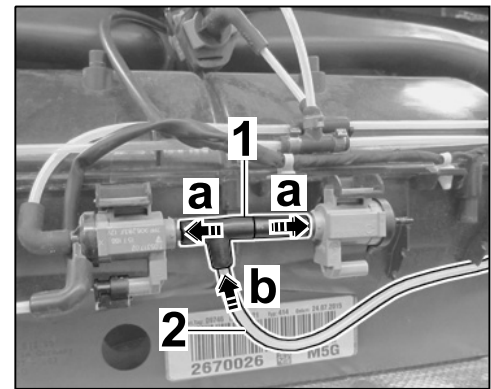

Figure 53
- 10.3.3 Install connecting line  $\Rightarrow$  *Figure 53-1*- between the vacuum valves  $\Rightarrow$  *Figure 53-a*-.
Insert standard vacuum line  $\Rightarrow$  *Figure 53-2*- at least 10 mm into the T-piece  $\Rightarrow$  *Figure 53-b*-.